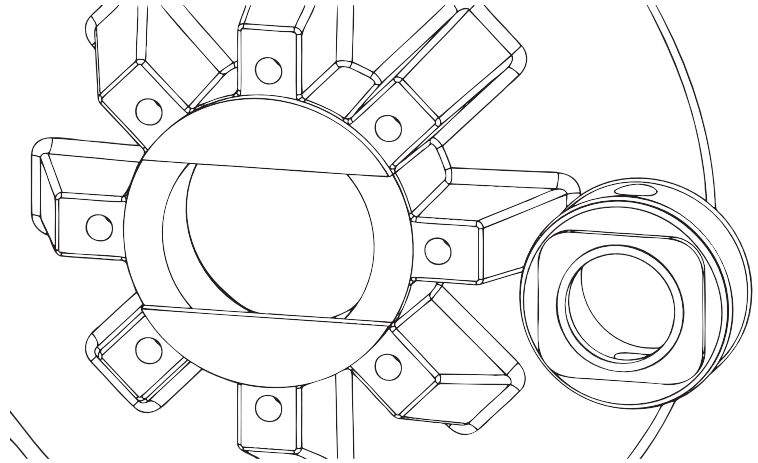

Figure 30
3. The o-rings on the stationary seal must be lubricated well or it will be very difficult to push the stationary seal into the its' bore. Line up the flats on the stationary seal with the rectangular hole in the hub of the casing. See *figure 30*.